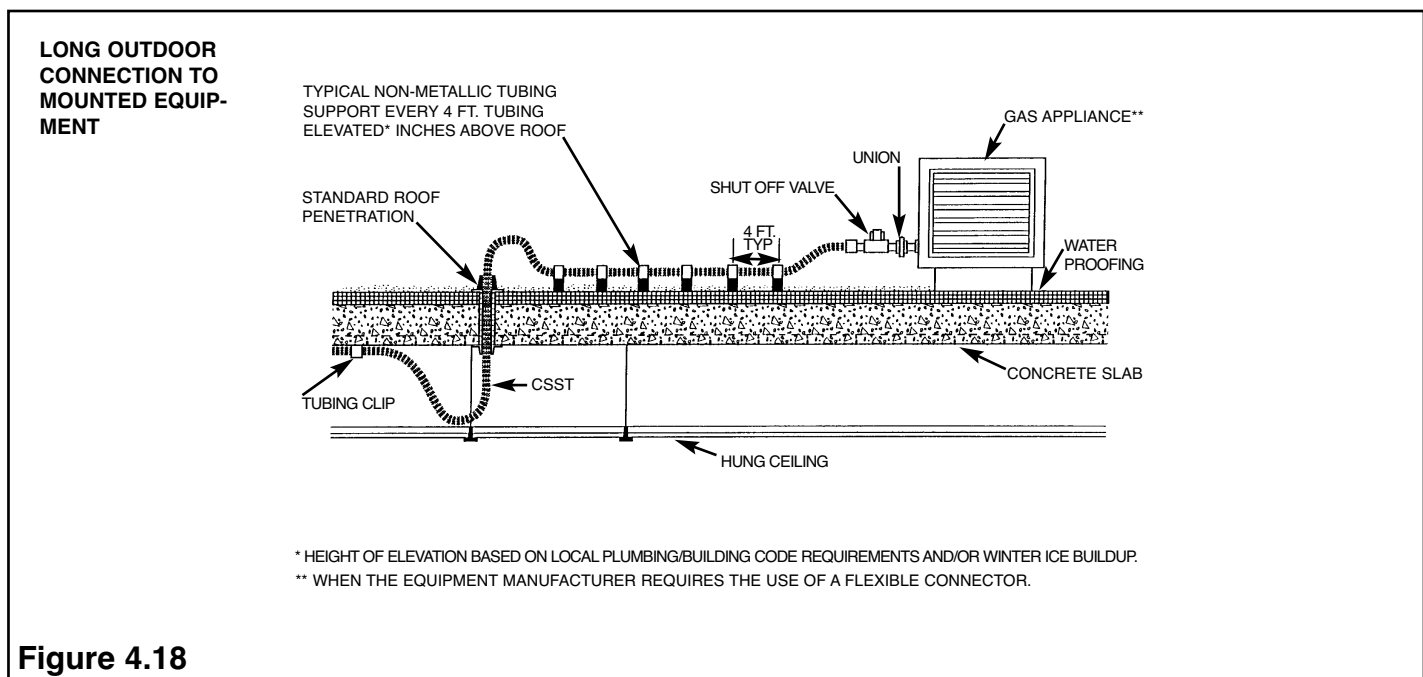
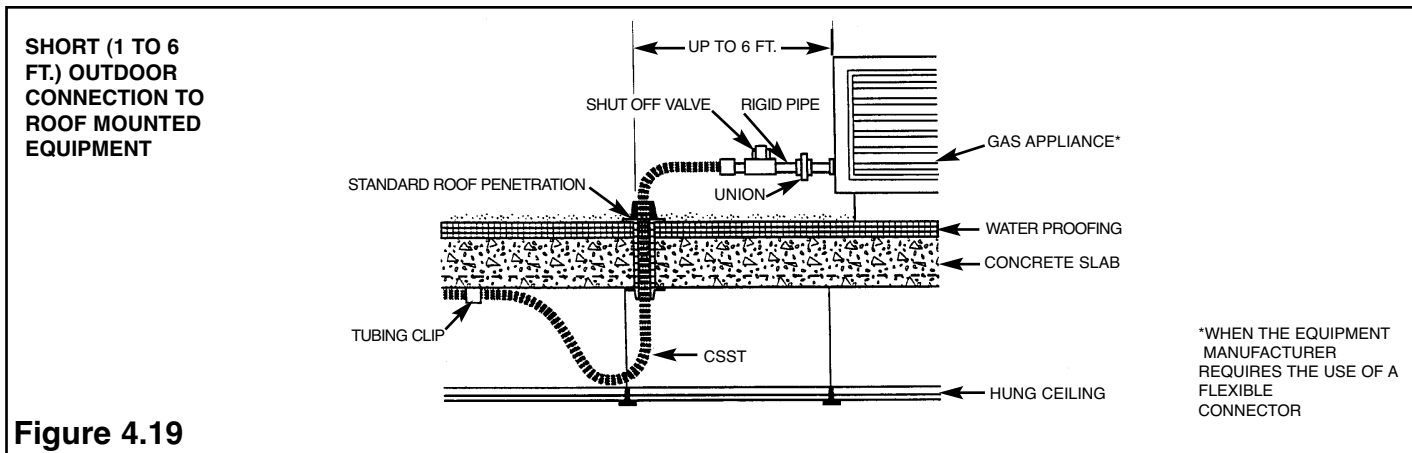

Figure 4.18
Figure 4.19
- No special mechanical protection of the tubing is required for connections to roof top equipment. Whenever possible, roof penetrations shall include an outdoor termination fitting and shall be located within 6 ft. of the equipment to be connected as shown in Figure 4.19. Long runs of tubing shall be supported with nonmetallic blocks every 4 ft. along its outdoor length, and raised above the roof (as shown in Figure 4.18) a distance determined by local code/practice.